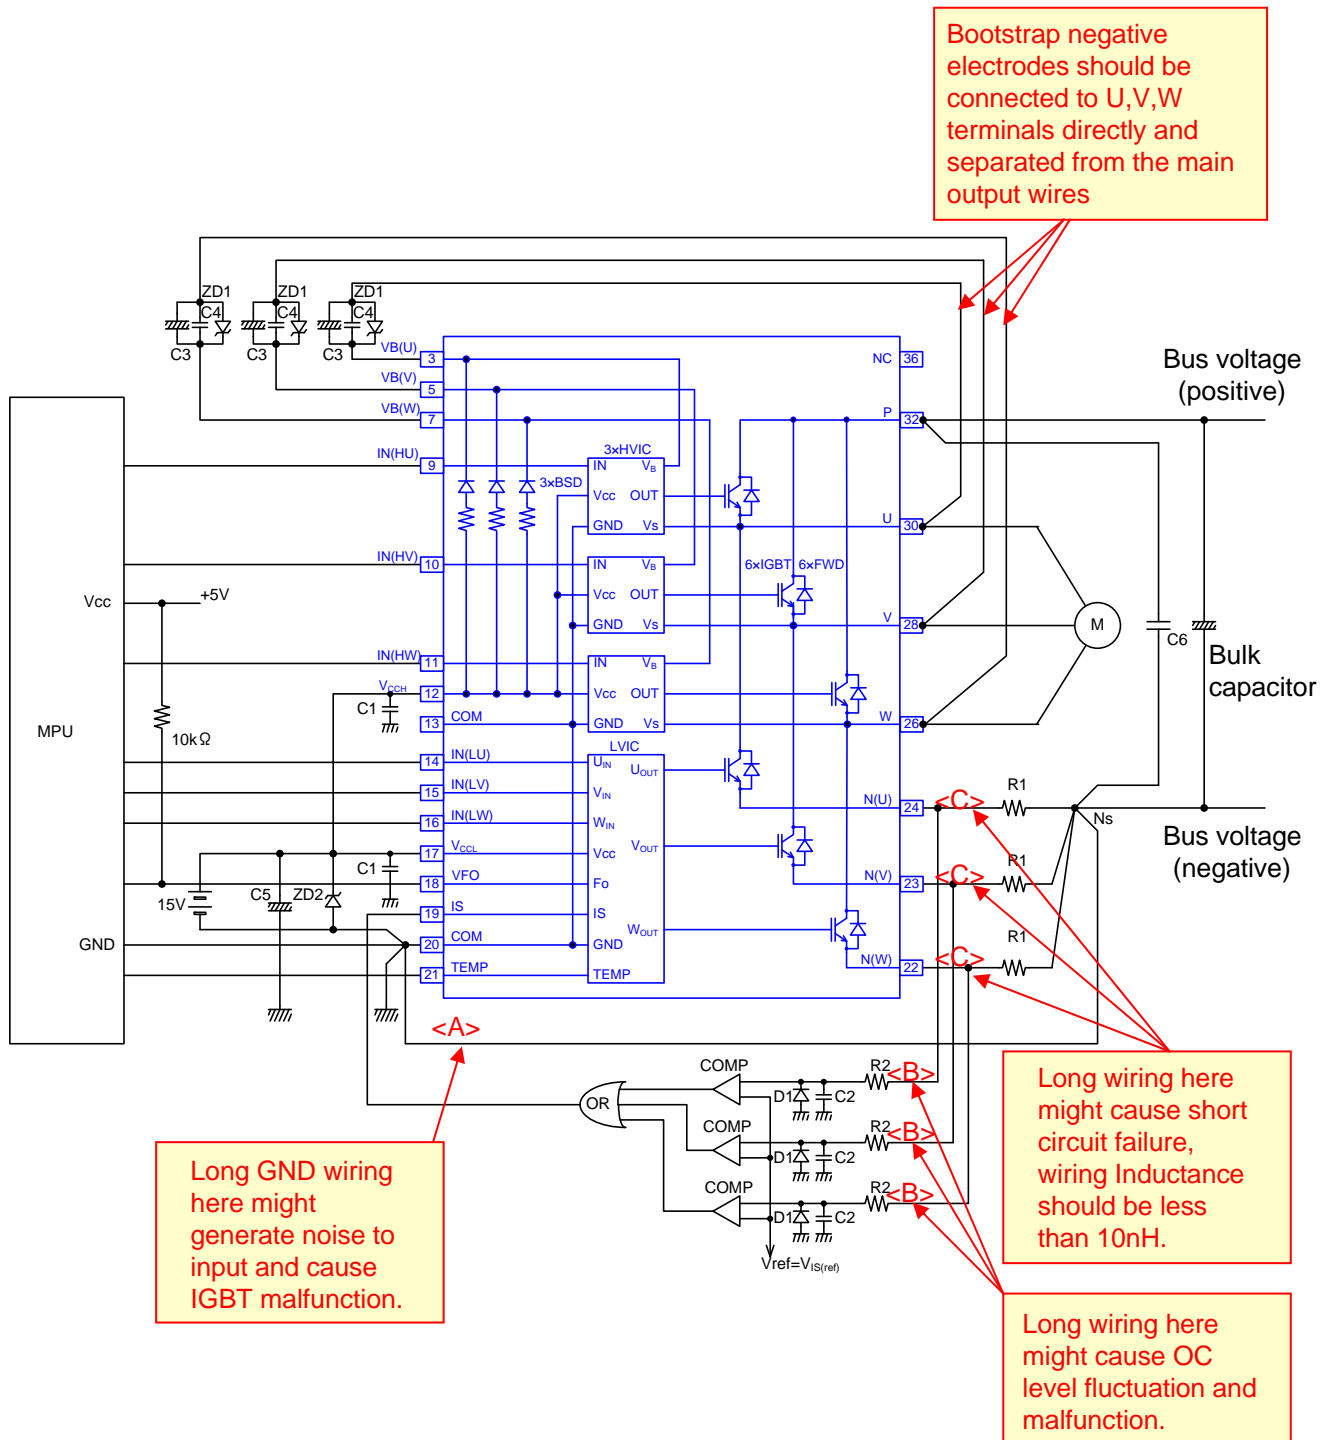
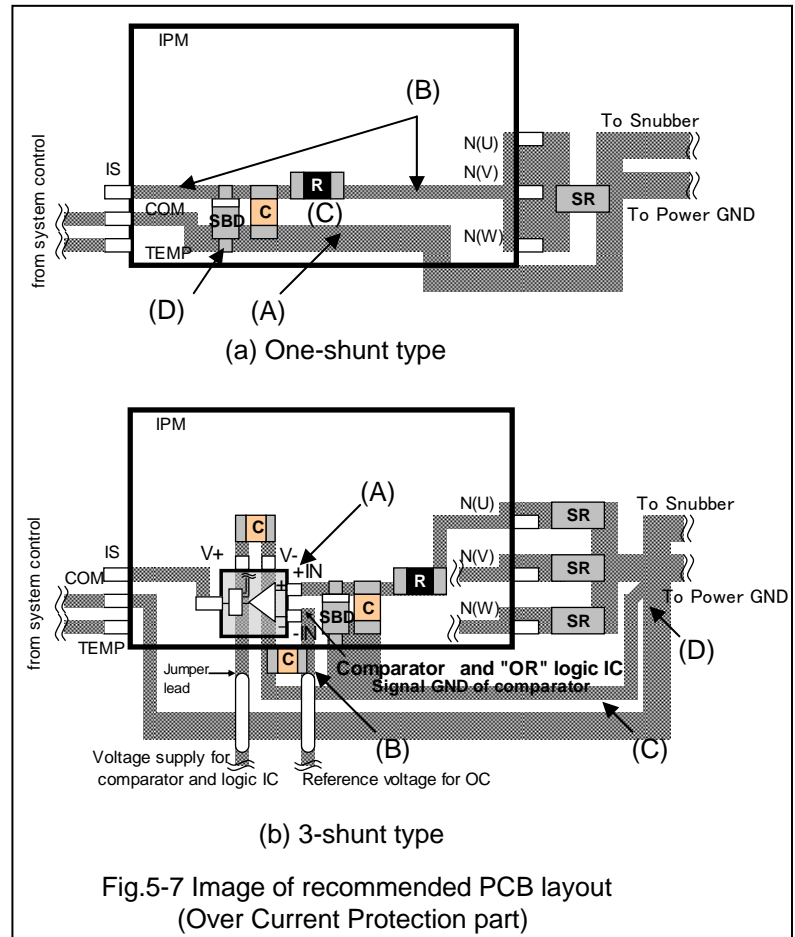

Fig. 5-2 Another example of application circuit
Fig.5-7 Image of recommended PCB layout (Over Current Protection part)
In this section, the recommended pattern layout and precautions in PCB design are described. Fig.5-3 to Fig.5-7 show the image of recommended PCB layout, referring Fig.5-1 and Fig.5-2. In these Fig., the input signals from system control are represented with "IN(HU)".
Like Fig.5-1 and Fig. 5-2, to detect and protect the OC condition, 2 methods of current-sense are shown by example. One is "One-shunt type" (Fig.5-7 (a)) and the other is "3-shunt type" (Fig.5-7 (b)).
In Fig.5-7 (a)
In Fig.5-7 (b)
- (A) Please use high speed type comparator and logic IC to detect OC condition quickly.
- (B) The reference voltage level of OC which is inputted to the comparator should be coupled by capacitor to signal GND. And it should be as close to comparator as possible.
- (C) The pattern of signal GND for COM terminal and the pattern of signal GND for the comparator should be separated each other.
- (D) The pattern of signal GND from COM and the pattern of signal GND of the comparator should be connected together at one point ground. The one point ground should be as close to the negative pole of the shunt resistors.
- (E) The other precautions and recommendations are same as Fig.5-7 (a).